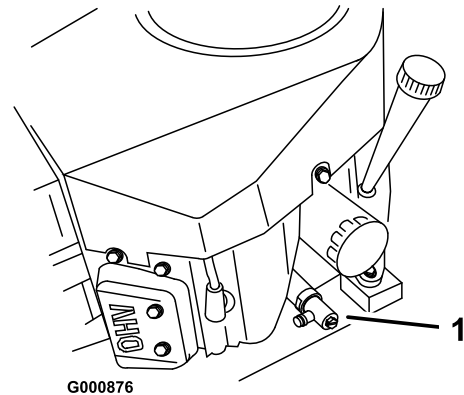

Figure 25
5. Slide the drain hose over the oil drain valve (Figure 25).
6. Place a pan below the oil drain hose. Use either a flat screw driver, 3/8 inch (10 mm) wrench to open valve (Figure 25).
7. Rotate valve end counterclockwise to open valve (Figure 25).
8. When oil has drained completely, rotate valve end clockwise to close the valve (Figure 25).
10. Clean around the oil dipstick and unscrew the cap (Figure 25).
11. Slowly pour approximately 80% of the specified oil into the filler cap (Figure 25). Refer to Servicing the Engine Oil, in Engine Maintenance, page 25.